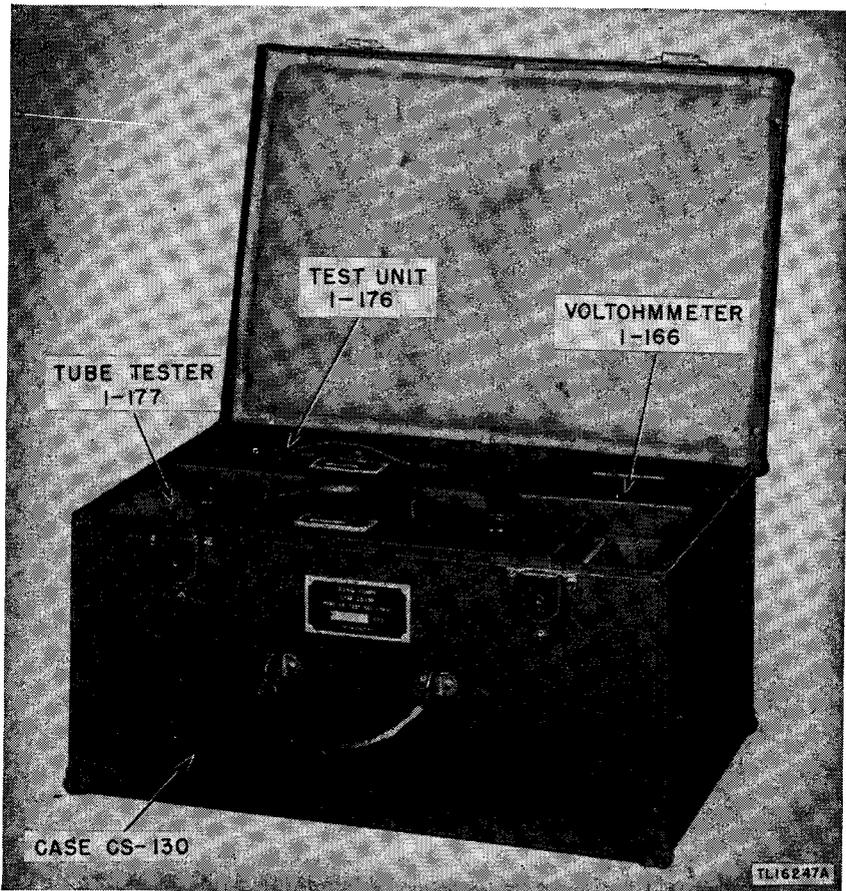

Figure 1.2.—Test Set I-56-K.
a. (Superseded.) This instrument is furnished either as an individual unit or as part of Test Set I-56-K. As a part of Test Set I-56-K it fits into a compartment of Carrying Case CS-130 (fig. 1.2). The weights and dimensions of the tube tester and other components of the test set are given below.